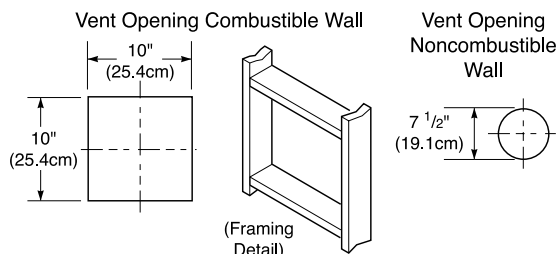

Figure 21 - Vent Opening Requirements
- Attach vent pipe assembly to the fireplace. Set fireplace in front of its permanent location to insure minimum clearances. Mark the wall for a 10" square hole (for noncombustible material such as masonry block or concrete, a 7 1/2" diameter hole is acceptable). See Figure 21. The center of the hole should line up with the center-line of the horizontal rigid vent pipe. Cut a 10"x10" (25.4cm x 25.4cm) square hole through combustible exterior wall (7 1/2" [19.1cm] diameter hole if noncombustible). Frame as necessary (see Figure 21).
1. Cut a 10" square hole in the ceiling using the locating hole as a center point. The opening should be framed to 10"x10" (25.4cm x 25.4cm) inside dimensions, as shown in Figure 21 on page 13 using framing lumber the same size as the ceiling joists. If the area above the ceiling is an insulated ceiling or a room, nail firestop from the top side. This prevents loose insulation from falling into the required clearance space. Otherwise, install firestop below the framed hole. The firestop should be installed with no less than three nails per side (see Figure 30).
3. Cut a hole in the roof using the locating hole as a center point. (Cover any exposed open vent pipes before cutting hole in roof.) The 10"x10" hole must be measured on the horizontal; actual length may be larger depending on the pitch of the roof. There must be a 1" clearance from the vent pipe to combustible materials. Frame the opening as shown in Figure 21 on page 13.